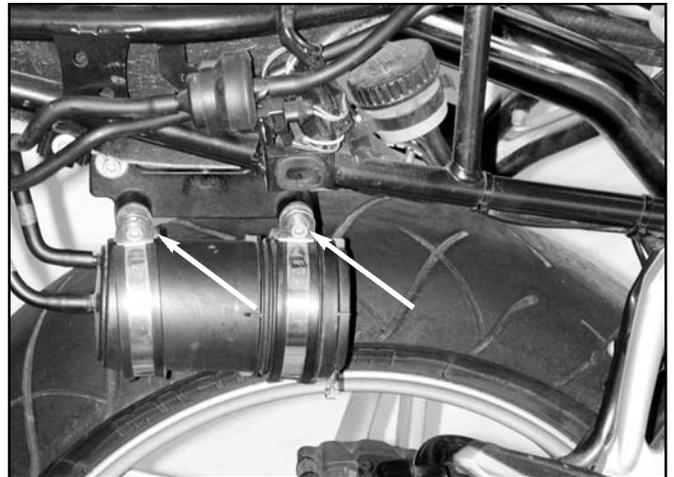

Figure 1
4. Remove the screws that hold the straps around the Evaporative Emissions Canister, retain the screws and straps. (Hex Key Wrench, 5mm) Do not disconnect the hoses. See figure 1.